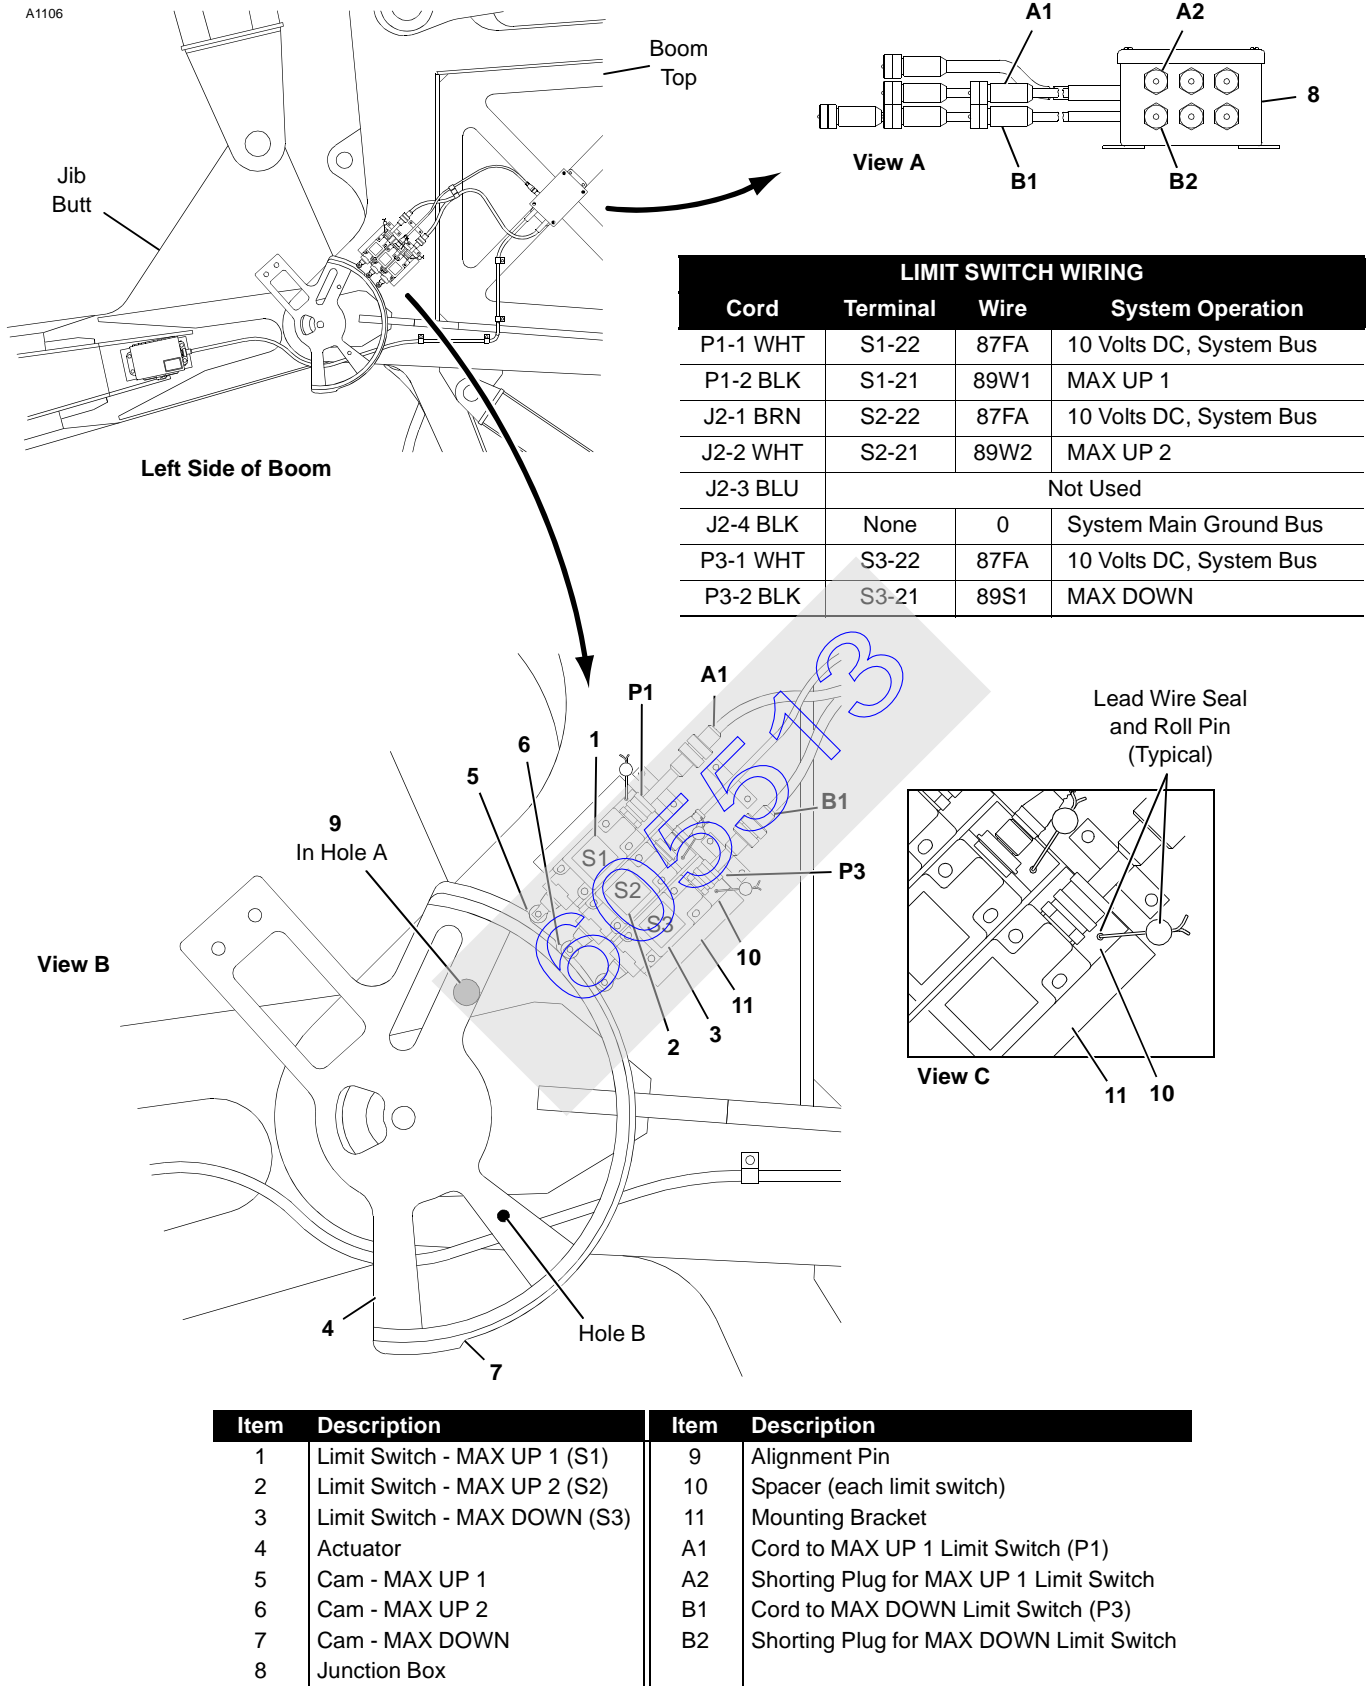

FIGURE 6-10
The luffing jib attachment is equipped with three limit switches (Figure 6-10) which automatically stop the luffing hoist and apply its brake when the luffing jib is raised or lowered to the following angles:
See Figure 6-10 for following procedure.
1. Securely fasten actuator (4) to jib butt with screws and lock washers provided.
2. Once limit switches are properly adjusted, drill and seal limit switch spacers (10, Figure 6-10, View C) to mounting bracket (11) with dowel pins and lead wire seals.